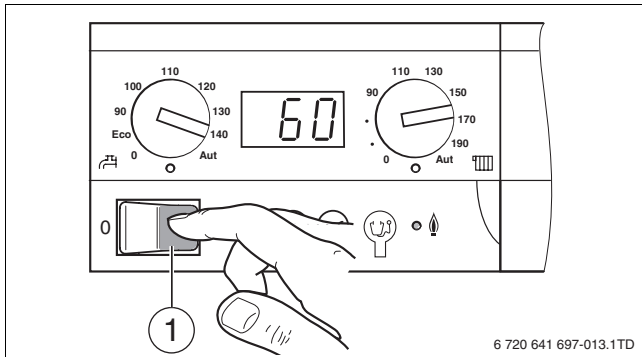

fig. 12 Mains switch to „ON“
- ▶ Switch on the appliance using the mains switch (→ fig. 12).